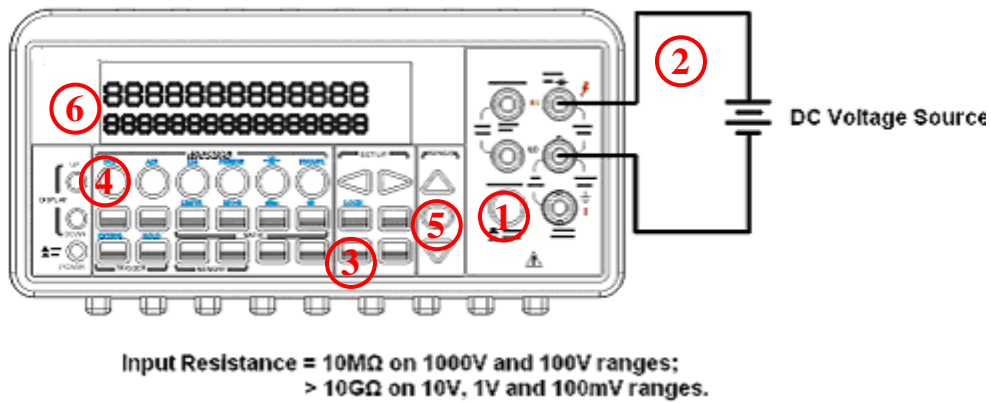
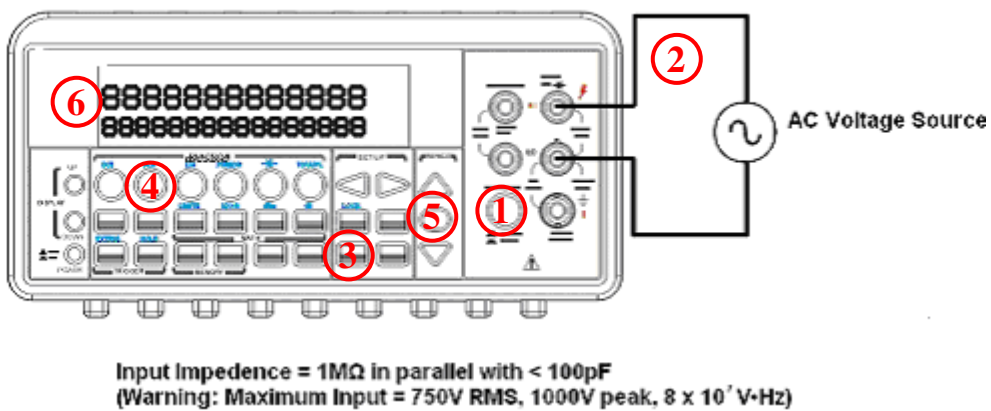
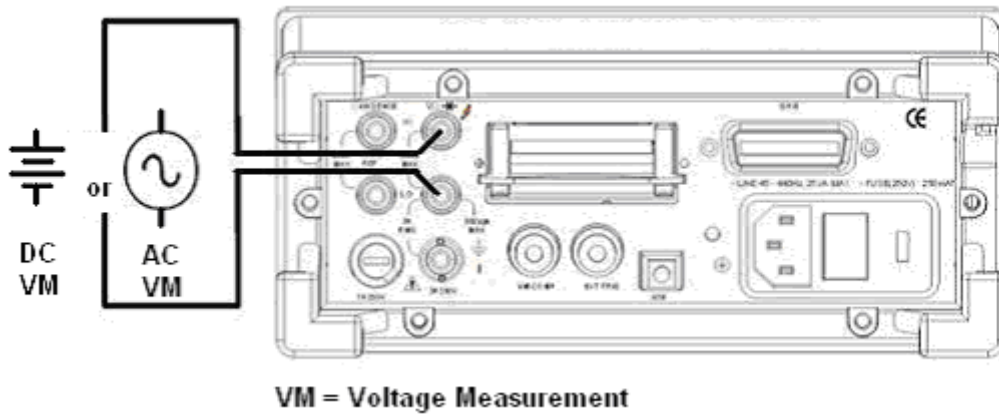

Figure 3-1
Figure 3-2
Figure 3-3
The ranges for DC voltage measurements in 12061 are 100mV, 1V, 10V, 100V and 1000V. For AC voltage measurements, the ranges are 100mV to 750V AC-Coupled TRMS, or 1000V peak. **Figures 3-1** and **3-2** show the locations of the buttons needed and message display for voltage measurement. **Figure 3-3** shows the location of the input terminals on the rear panel.
- ① Selects input signal connections on front or rear panel.
- ② Connect the test leads to the terminals as shown in **Figure 3-1**(DC) or **Figure 3-2** (AC).
- ③ Set RESOLUTION of DCV (Refer to 4.1.3), BAND WIDTH of ACV (Refer to 4.1.2.1) or skip this step if default is to be used.
- ④ Press DCV or ACV button for DC or AC voltage measuring.
- ⑤ Select the auto-range function by pressing AUTO button on the front panel or use \triangle ∇ buttons to select desired range.
- ⑥ Connect test leads to your source signal and observe the reading shown on the display. If the input signal is beyond the allowed range, an overflow message "OVL" will be displayed.
※ Note: The rear panel terminals can also be used via the same procedures as the front panel terminals. (Refer to Figure 3.3)
- ② Connect the test leads to the terminals as shown in **Figure 3-2**.
- ③ Set RESOLUTION (Refer to 4.1.1) and INPUT JACK. Or skip this step if default is to be used.
- ④ Press FREQ button for frequency measurement or SHIFT + FREQ buttons for period measurement.
- ⑤ Select the auto-range function by pressing AUTO button on the front panel or use \triangle and ∇ buttons to select the desired range.
- ⑥ Connect test leads to your source signal and observe the reading shown on the display. If the input signal is beyond the allowed range, an overflow message "OVLD" will be displayed.
※ Note: The rear terminal panel also can be used via the same procedures as the front panel. (Please refer to **Figure 3-3**)
- ① Connect the test leads to the terminals as shown in **Figure 3-2**.
- ② Set REConnect the input signal as the following figure.
- ③ Set threshold resistance via pressing CONFIG + CONT buttons. (Or skip this step if default resistance is to be used) When ready, press ENTER button.
- ④ Press CONT button.
- ⑤ The measured value will be shown on the display automatically. Meter "beeps" when measured resistance value is lower than threshold